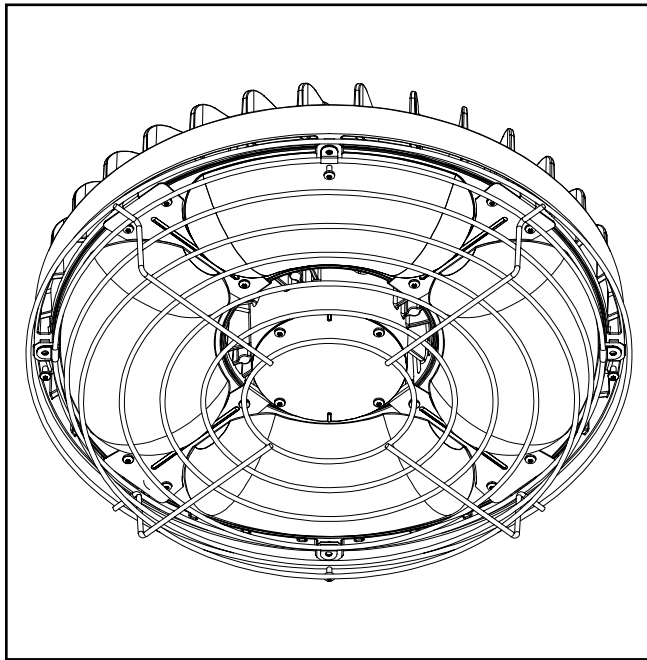

Figure 2.
2. Align wire guard clips with lens clips and reinstall as shown in Figure 2.